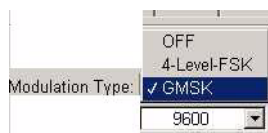

Figure 2-24. Modulation Type
2. From the **Modulation Type** control (Figure 2-24 and Table 2-3), select a modulation scheme that will be used by your base radio modem.